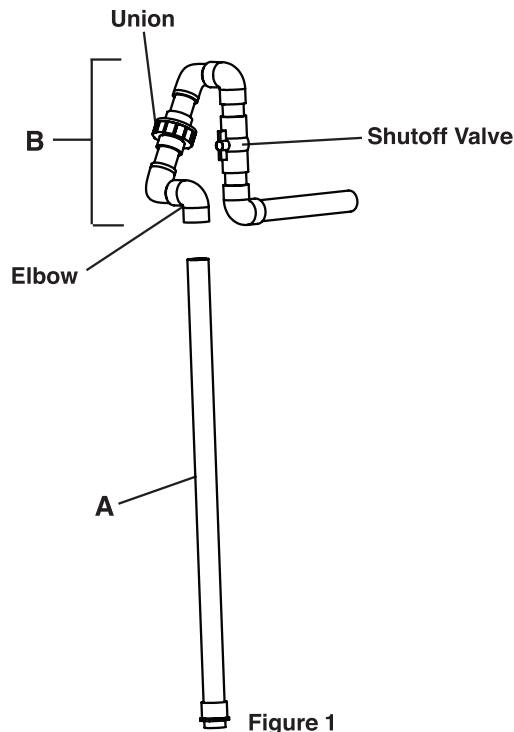

Figure 1
**Step 4:** Attach the preassembled 36” PVC pipe with pipe adapter (Figure 1, part A), pipe adapter end first, thread onto the pump. Lower the pump into the pump chamber of the housing. Note: The chamber is designed to handle either one or two STEP pumps. A single pump can be located in either side of the chamber. Place a mark on PVC pipe “A” at the height necessary to be below frost line, per local code.
**Step 5:** Position the rest of the discharge kit (Figure 1, part B) with the open end of the elbow beside the pipe marking. This determines the discharge exit location on the riser. Mark the location where the discharge pipe will exit on the riser.
**Step 7:** Cement the remaining loose joints in the discharge kit (figure 1, part B). Several joints in the discharge kit are left un-cemented at the factory to allow adjustments during installation. Verify that all joints are properly cemented and leak free before putting the filter into service.